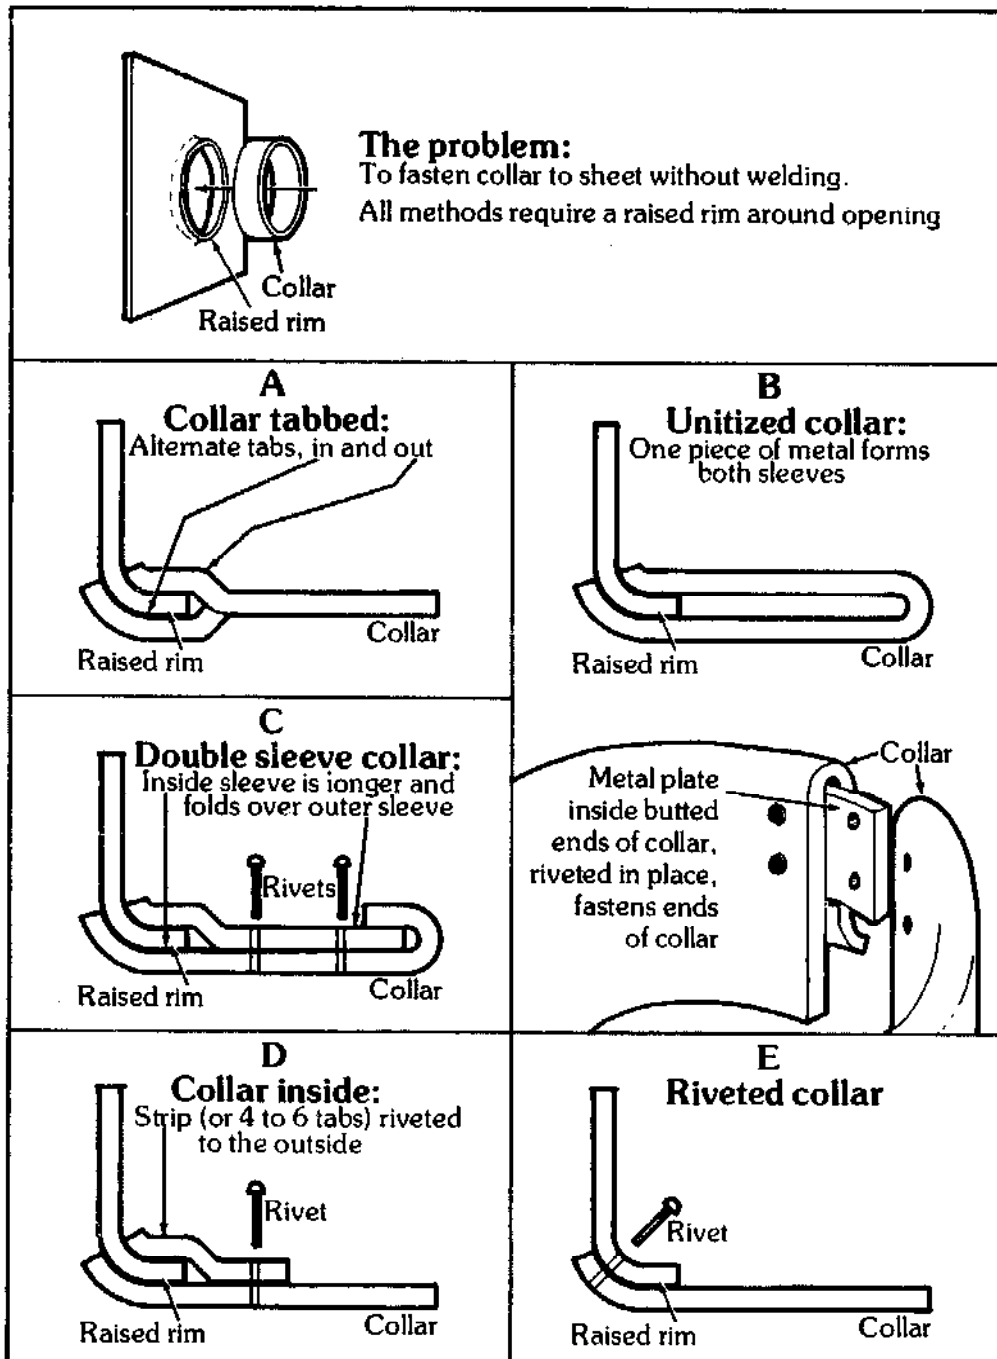
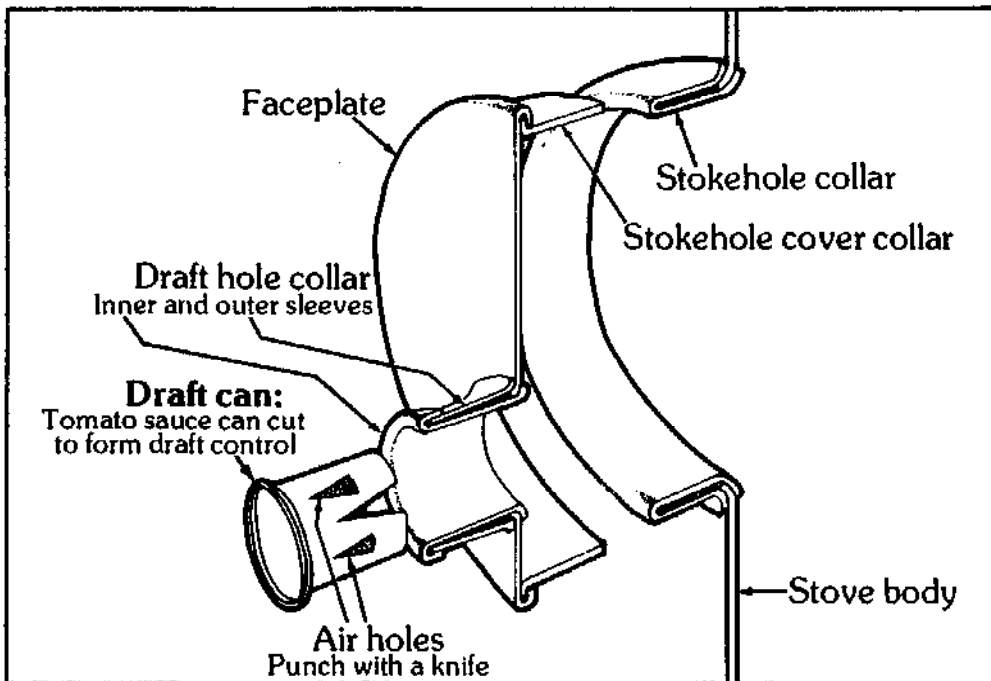

Figure 13.13—Five ways of attaching a collar to a sheet.
Figure 13.21 — Stokehole cover and draft system.
7. Form the stovepipe collar. There are at least five ways to fasten a collar to a stove body without welding, as shown in Figure 13.13. In every case you form the collar first, since it is far easier to cut a hole to fit an existing collar than it is to make a collar to fit an existing hole. Then you cut a hole in the stove body, somewhat smaller than the collar, and turn up its edge to form a shallow, volcano-like rim. Part of the collar metal grasps the inside of this rim, and part grasps the outside—so that the finished collar can't slip either in or out—or else the collar is riveted to the rim.
Although this is the quickest and easiest way to attach a collar to the stove body, it is also the least airtight and the most likely to drip when condensate runs down the pipe. Unless you're pressed for time, I'd suggest one of the other methods shown in Figure 13.13.
method shown in Figure 13.13, Drawing B. This type of collar is the most airtight, the tidiest, and to my mind, the most elegant of the bunch. Cut a strip of metal $23\frac{1}{2}$ by 5 inches. Draw a line along the length of the strip on the painted side, $2\frac{3}{8}$ inches from one edge. Score lightly and fold over to form a doubled strip. Carefully form this into a circle, leaving the shorter side of the fold out.
13. Make the stokehole cover collar. (See Figure 13.21). Measure around the outside of the stokehole collar to get the length of the strip you need, allowing $\frac{1}{2}$ inch for overlap. Cut the strip $2\frac{1}{4}$ inches wide and mold it to the stokehole collar so that it slides on and off with a smooth, gentle friction fit. A collar that is too tight makes it hard to get the cover on and off, and one that is too loose admits too much air for best control of the fire. Rivet it twice through the overlap. Make a mark on both collars so that you can always line them up in the same way. With the stokehole cover collar in place on the stokehole collar, bend a $\frac{1}{4}$ -inch flange
15. Form the draft hole collar. The draft system is also shown in Figure 13.21. A tin can, with air holes cut as shown, slides inside a small collar in the stokehole cover faceplate to admit varying amounts of air to the firebox. This collar is constructed according to the method shown in Figure 13.13, Drawing C. First, obtain a soup or tomato sauce can to use as a form in rolling the strips. Carefully measure the circumference of your can and cut a sheet of metal just a shade longer and 3 inches wide. You want the sheet to go all the way around the can and just butt up edge to edge, with a gently snug fit. Mold this sheet to fit around the can, thus forming the inner sleeve of the collar. Now cut another sheet of metal a shade longer than the inner sleeve and $\frac{1}{2}$ inch narrower. Form it around the inner sleeve, with the seams offset 180 degrees. Take care to get both sleeves as round as possible, and check the fit against your can. Clamp the sleeves together so that $\frac{1}{4}$ inch of the inner sleeve protrudes at each end of the outer sleeve and rivet twice on each side of each seam—eight rivets in all.
16. Cut the draft can. After removing one end and the rim, cut the draft can to the pattern shown in Figure 13.21. Pushing the can all the way into the draft hole collar closes the draft completely; pulling it out various distances gives varying amounts of air to the fire; removing it from the collar completely allows a strong blast of air to rush through the tube onto the coals. A simple handle can be riveted onto the bottom of the can to aid in manipulating it.